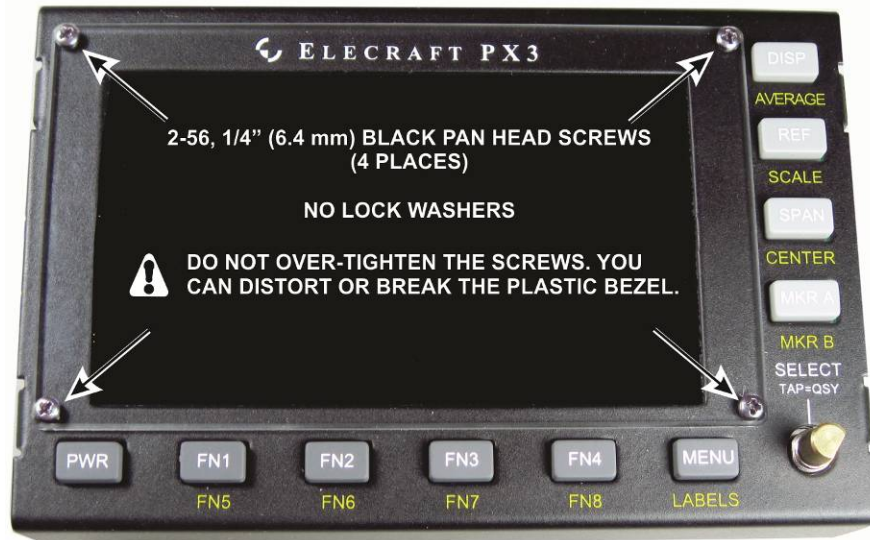
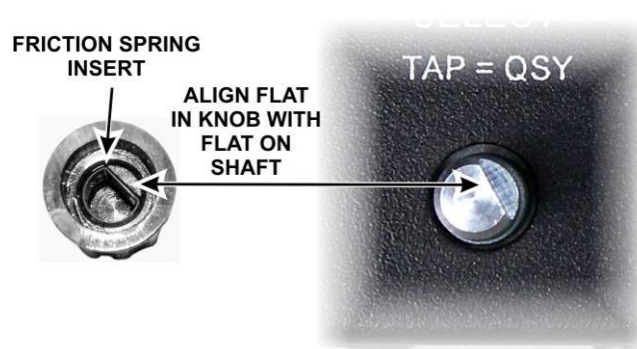

Figure 31. PC Board and Bezel Mounted on Front Panel.
Figure 32. Installing the Knob.
□ Hold the front panel board face up so the LCD does not become dislodged and place the front panel sheet metal and bezel over it as shown in Figure 31. Insert the front panel board from the back of the sheet metal, angling it as needed to fit past the narrow part of the panel. Place the bezel on top of the front panel sheet metal and secure it as shown, threading the screws through the bezel, top cover and into the standoffs you installed earlier on the front panel board. Do not use lock washers. **Do not over-tighten the screws. You can distort or break the bezel.**
□ Check to ensure the knob has its spring insert in place, then press it onto the shaft. Be sure the flat on the shaft is aligned with the flat surface in the knob (see Figure 32). The control has a built-in switch so do not be surprised to hear a click when you press the knob onto the shaft. The knob will stand above the surface of the front panel to allow room for the knob to move when operating the switch. Also, some side-to-side movement of the knob is normal in a control of this type with a built in switch.
⚠ If the connectors do not like up with the holes as shown, be sure you mounted the plastic bezel on the outside of the front panel as shown in Figure 31 on page 45.
To remove the front panel board and gain access to the LCD, remove the knob (see Figure 32 on page 45) and the four screws on the plastic bezel (Figure 31). That will free both the front panel board assembly and the plastic bezel. Take care not to scratch the bezel or lose the screws. You will need to tilt the front panel board assembly to remove it from the front panel sheet metal.